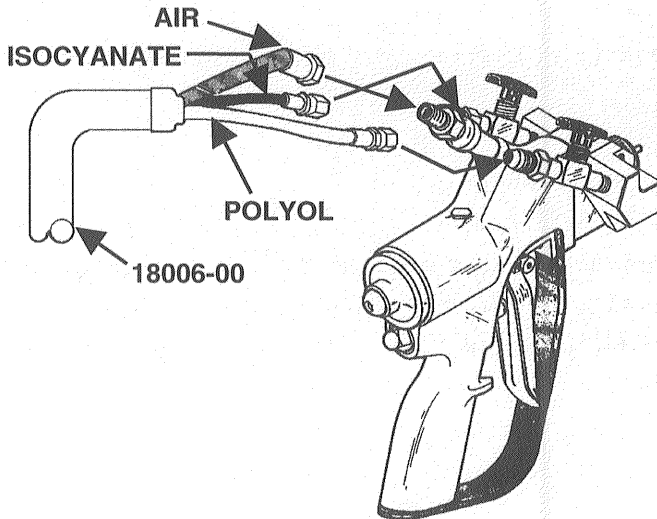

Fig. 4
4. The Whip Hose assembly should now be attached to the Gun. The swivel fittings on the Whip Hose assembly are sized differently and will attach only one way. (Match like sized fittings.) Also connect the Air Hose assembly to the Gun at this time. (see Fig. 4)